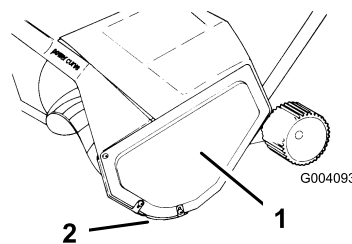

Figure 14
Note: If you cannot remove the rotor shaft by holding the rotor, remove the left side cover and the skid (Figure 14).
- Remove the 3 screws that secure the left side plate to the snowthrower frame (Figure 14).
- Remove the screws that secure the left side plate and the skid to the snowthrower frame (Figure 14).